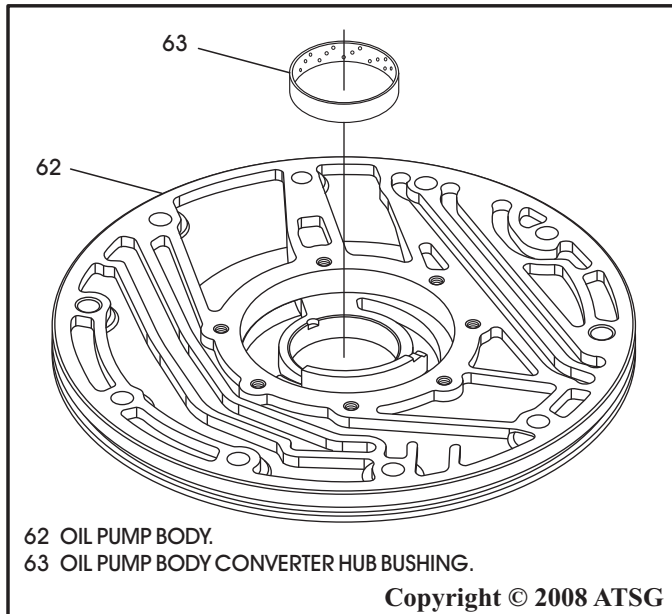

Figure 77
4. Install new oil pump body bushing as needed, as shown in Figure 77, using a proper bushing driver (*No bushing in early 4 speed units*).